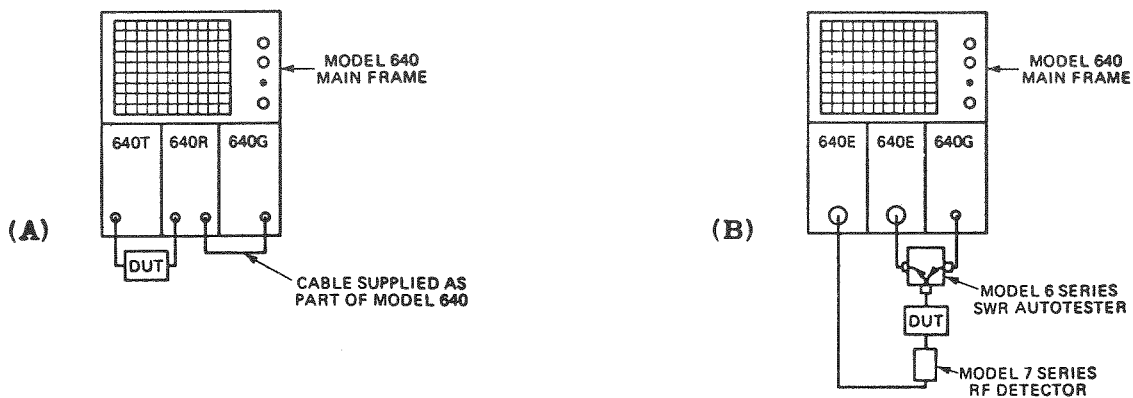

Figure 1-3. Typical Configurations for Insertion Gain/Loss
Figure 1-3 shows typical measurement setups for simultaneous transmission and reflection measurements. The configuration shown in (A) uses the Model 640G (Sweep Generator), 640R (Reflection), and 640T (Transmission) Plug-Ins. Both transmission and reflection measurements are simultaneously displayed on the CRT and independently controlled. This configuration is ideally suited to testing components (such as bandpass filters) which
In instances where it is not feasible to connect the test device directly to the Model 640 Analyzer, the configuration shown in Figure 1-3(B) is used. It consists of the Model 640G Sweep Generator, two Model 640E Log Amplifiers, a Model 6 Series SWR Autotester, and a Model 7 Series RF Detector. The device under test is connected between the SWR Autotester and the RF detector. If simultaneous transmission and reflection measurements are